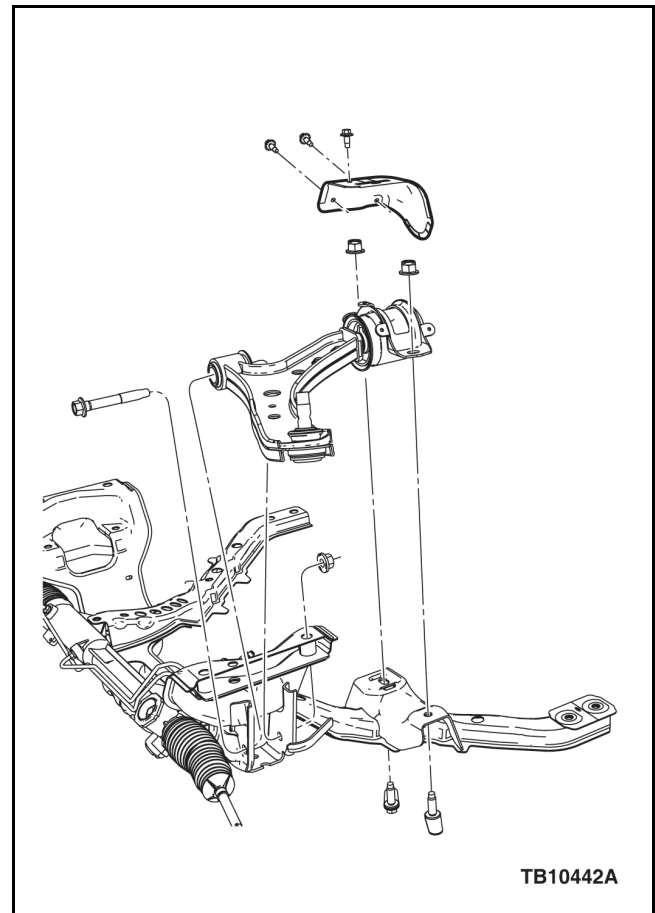

Figure 1 - Article 13-9-3
3. If the noise is confirmed as coming from the hydro bushing, replace the affected lower control arm with the new lower control arm with shield and three (3) screws. Tighten the three (3) shield screws to 7 N•m (62 lb-in.) Refer to WSM, Section 204-01. (Figure 1)